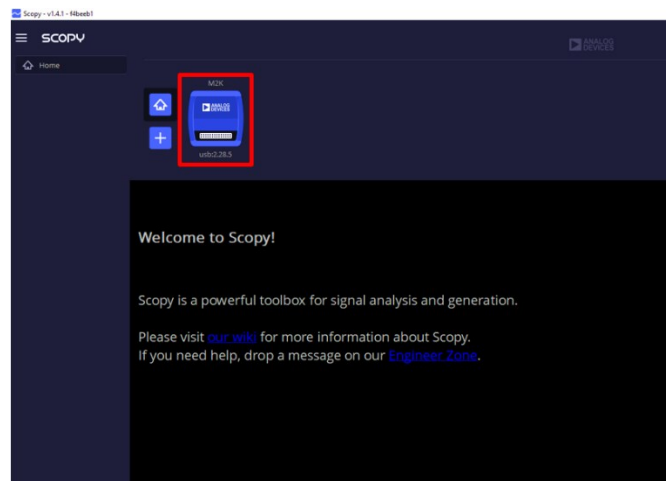

Figure 10. ADALM2000 Icon in the Devices Section
- b. Launch the Scopy software from the computer. Click the **ADALM2000** icon in the **Devices** section as shown in Figure 10. If the icon is not showing, remove the USB cable from the computer's USB port and repeat Step a to ensure a proper physical connection.